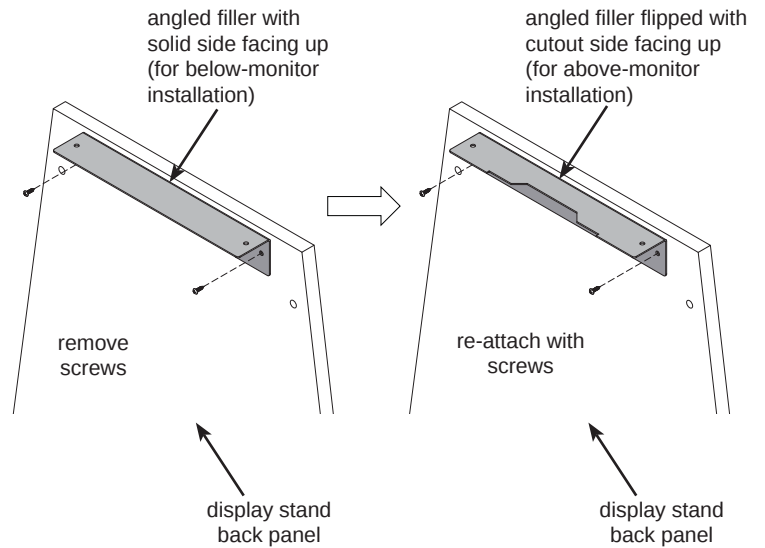

Figure 7
- C. Remove the screws attaching the angled filler to the back panel. **Figure 7.**
- D. Flip the angle around and re-attach to the panel with the cutout side facing up as shown. **Figure 7.**